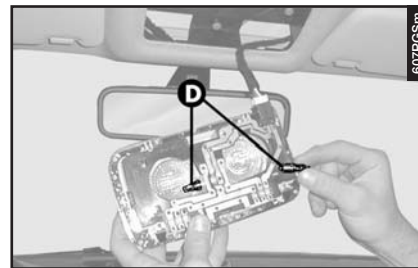

fig. 70
- Remove and replace the bulb concerned (**D-fig. 70**) (tubular with bayonet coupling), pushing gently and turning counter-clockwise.